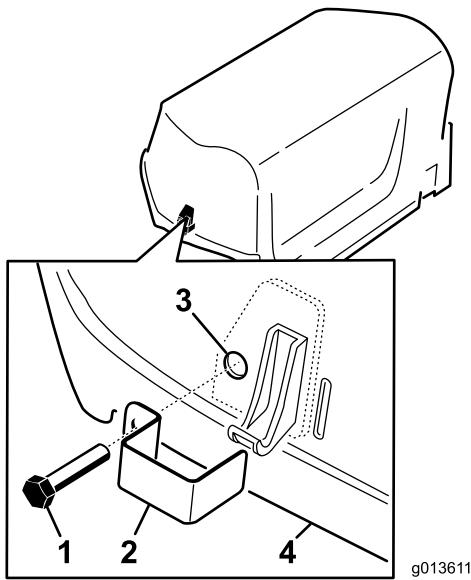

Figure 7
1. Install a latch lock over the left and right side hood latches with a tap bolt (two total) (Figure 7).
- Using a pliers or adjustable wrench, thread an internal lock washer onto each bolt (1-2 threads) to secure bolt (Figure 7).